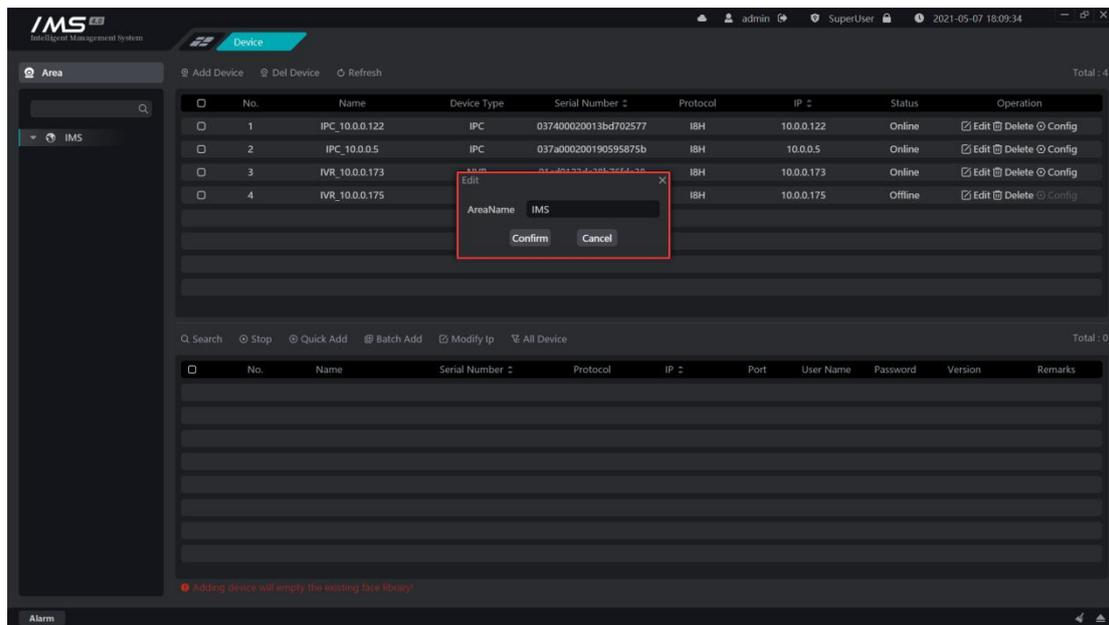

Figure 2-3
- 2 click the button  on the area node to open the edit window, as shown in figure 2-3.